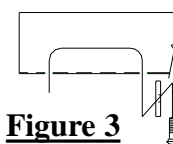

Figure 3
- Fish wire spacer and 7/16" carriage bolt thru access hole modified in Step 4 and down thru center hole in each frame rail (see figure 3). Insert remaining blocks and 1/2" carriage bolts into access holes and drop back down thru holes, making sure blocks span both sides of hole (see Figure 4).